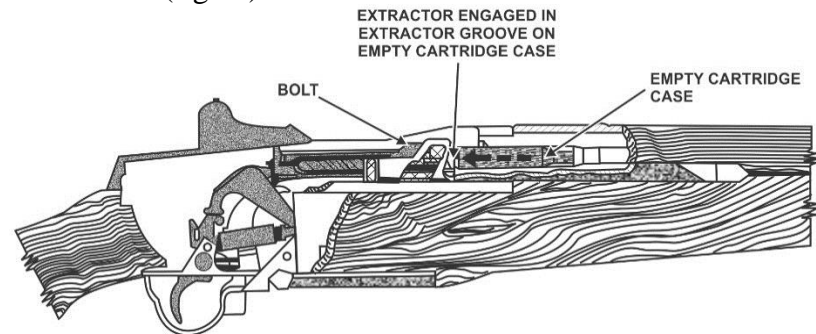

Figure 63. Extracting an empty cartridge case
- 6) **Extracting.** Extracting is the pulling of the empty cartridge case from the chamber. The extractor, which is engaged with the extracting groove on the cartridge case, withdraws the empty case as the bolt moves to the rear (fig 63).